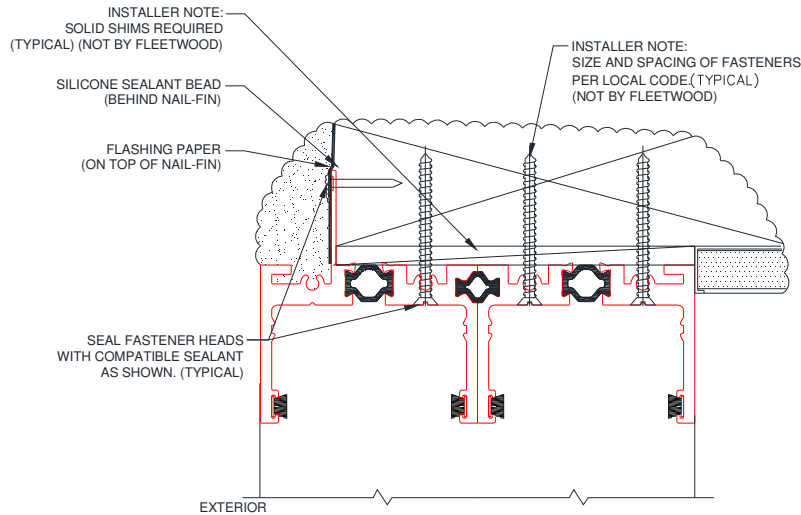

Figure 6:
- Pre-fit the frame into the opening (*ensuring orientation is correct*). Confirm that the frame is centered and square, sill is level and jambs are plumb. Once you have confirmed the fit, attach frame to structure as shown below (Figures 6 & 7).